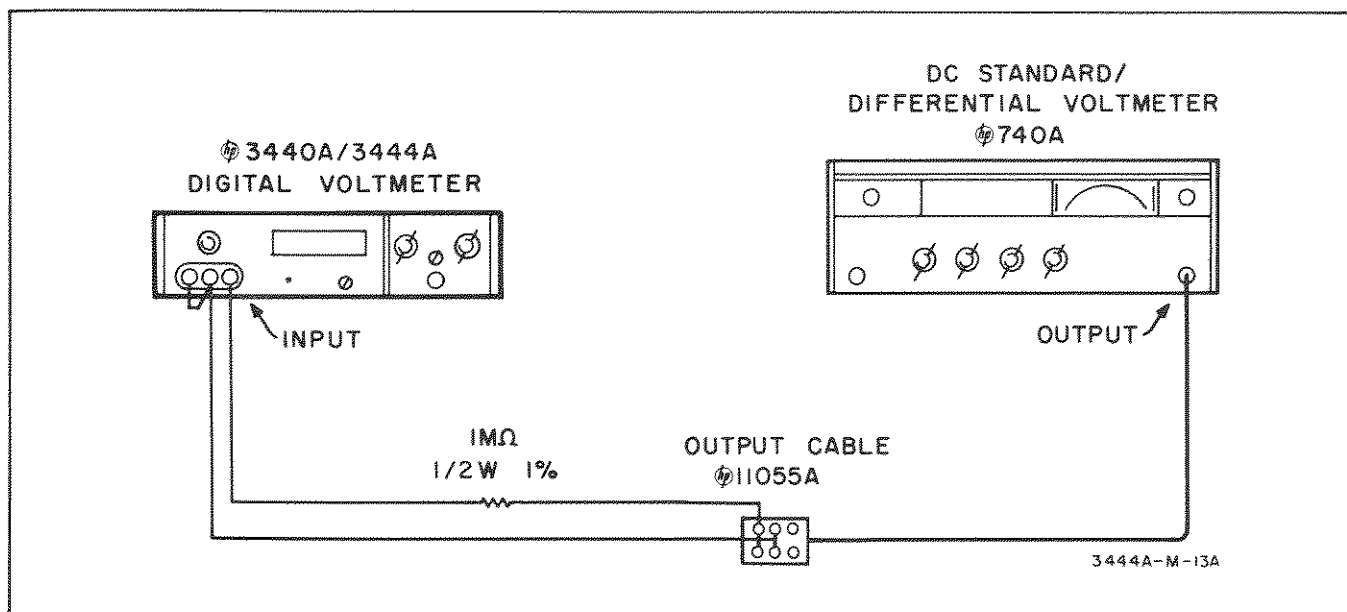

Figure 5-3. Voltmeter Input Impedance Performance Check Setup
- a. A 1 megohm $\pm 1\%$, 1/2 watt, fixed carbon film resistor is required for this check. Connect the test equipment according to Figure 5-3.